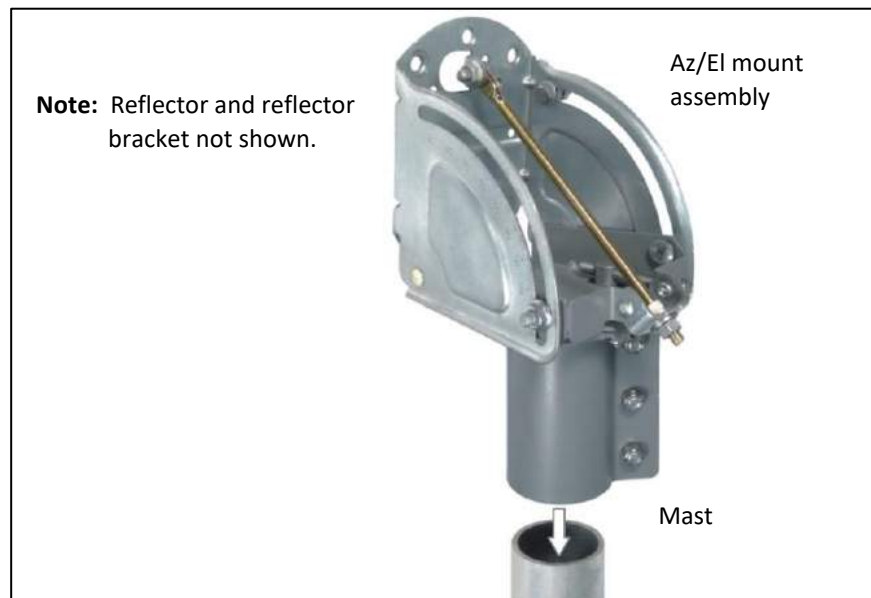

Figure 12: Installing the Az/EI mount assembly
2. Slide the antenna assembly down onto the mast so the Az/EI mount fits onto the mast as shown in Figure 12 on page 24.